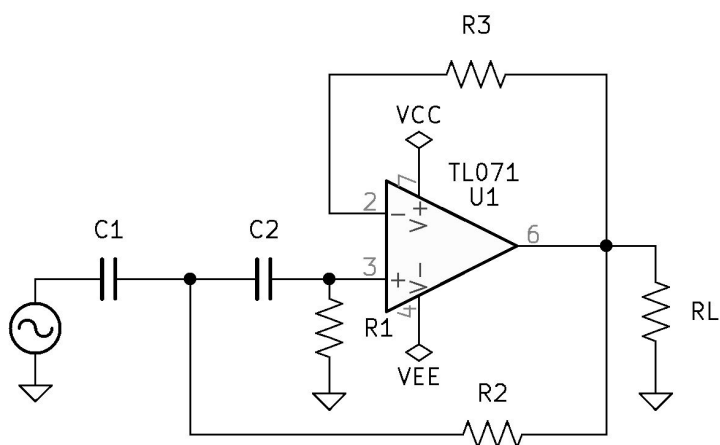

Figure 8.7: High-Pass Second-Order Active Filtering Circuit.
1. See Figure 8.7 *High-Pass Second-Order Active Filtering Circuit* on page 81.